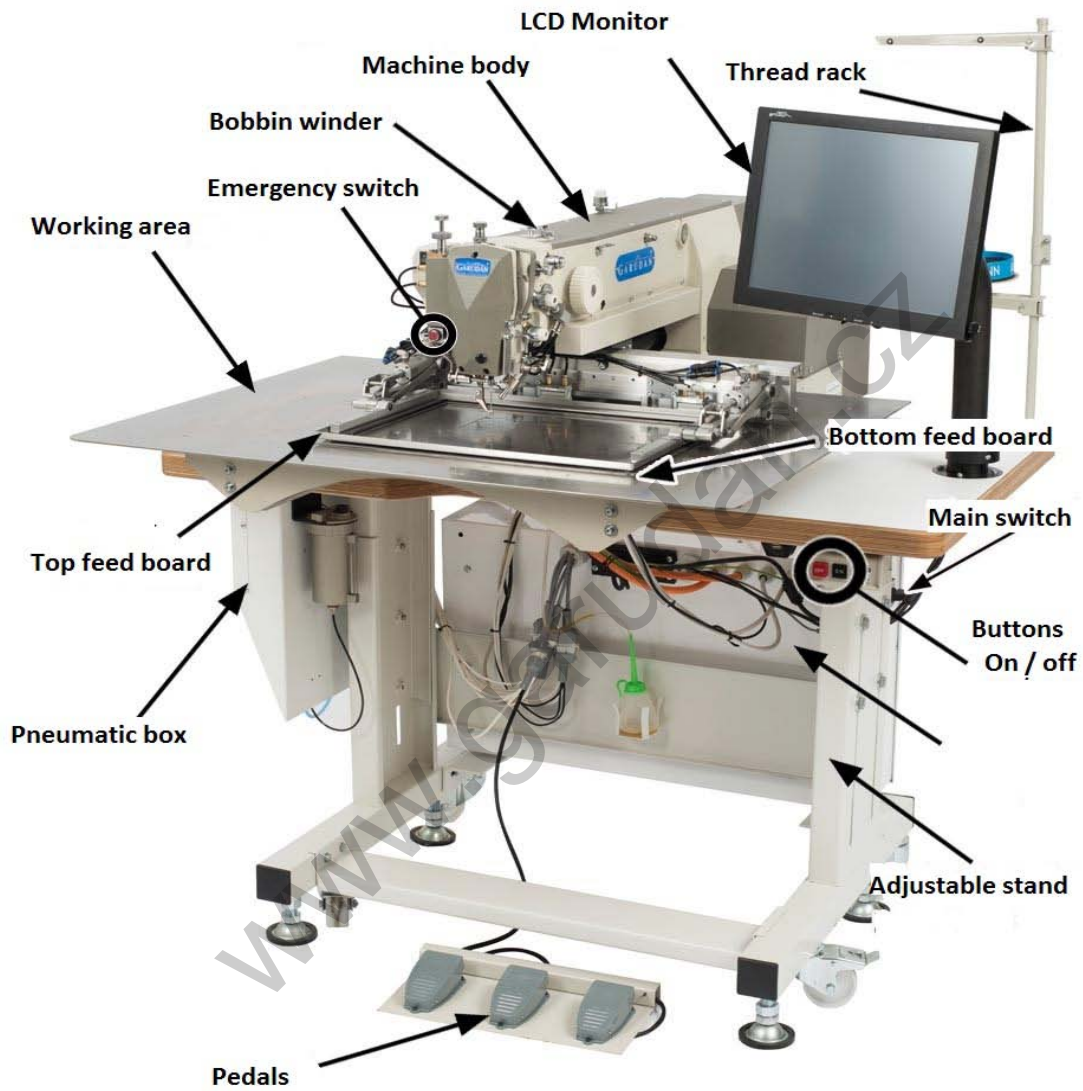

Fig. 1
6. Use buttons on/off or main switch (see fig. 1) in following situations: